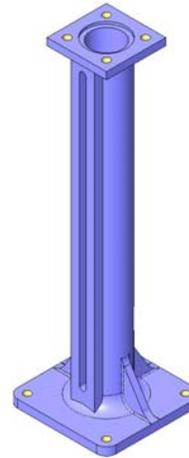

fig. 8
- Straight floor stands (fig. 8)